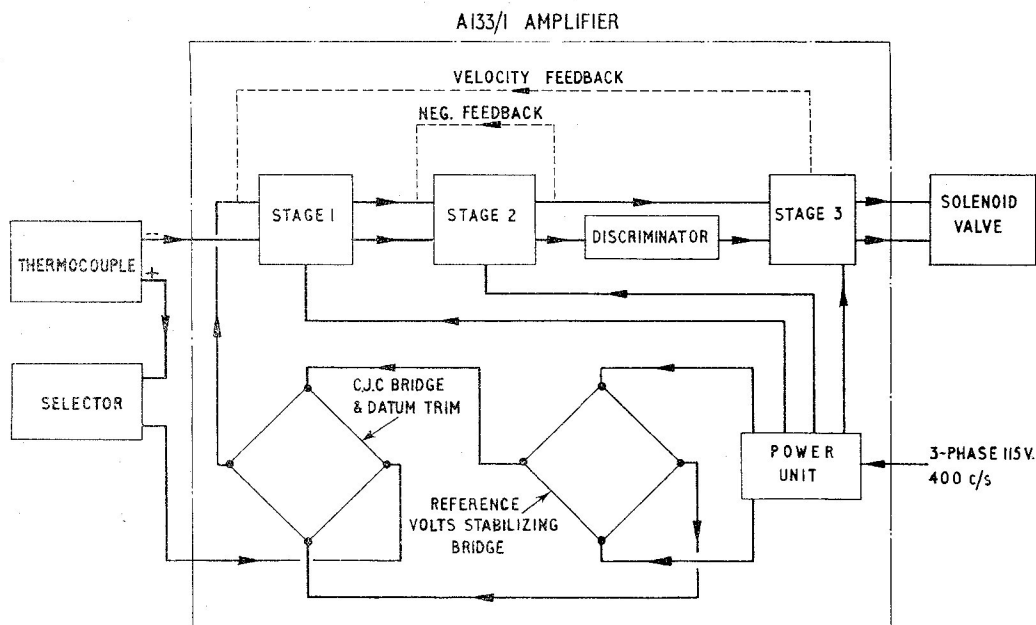

Fig. 3. Block schematic diagram of amplifier
13. A block schematic diagram of the amplifier stages is shown at *fig. 3* and a complete circuit diagram at *fig. 7*. In order to simplify the circuit diagram, the connections have